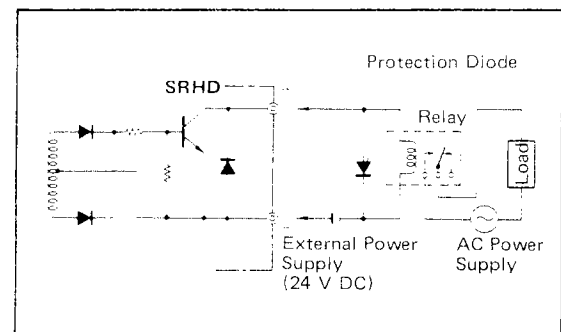

Figure 3-4. Connections for Switching an Alternating Current (AC) Load.
- An AC load cannot be switched directly using a transistor contact. In this case, provide a repeating relay or equivalent. (See Figure 3-4).
- (3) Prepare no-voltage contact or voltage level* for event trigger, record start/stop trigger or chart speed change trigger input signals.